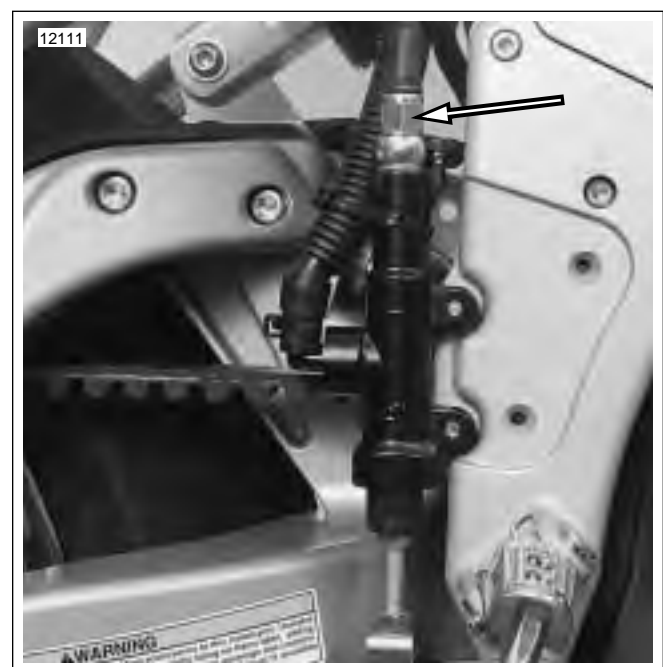

Figure 2-57. Rear Brake Line Switch/Banjo Bolt
9. See Figure 2-57. Remove brake line switch/banjo bolt from rear master cylinder. Discard copper washer.
1. See Figure 2-57. Install brake line switch/banjo bolt with **new** copper washers to the master cylinder. Tighten to 16-20 ft-lbs (22-27 Nm).